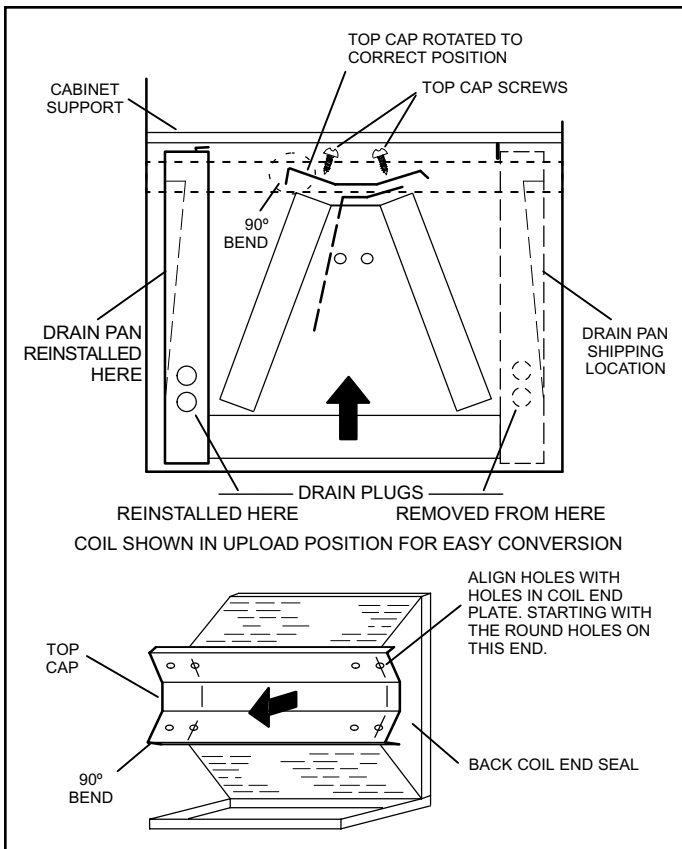

Figure 4. Field Modification for Left-Hand Discharge
7. Rotate top cap 180° front-to-back and align with unused screw holes. Holes must align with front and back coil end plates. The top cap has a 45° bend on one side and a 90° bend on the other. The 90° bend must be on the same side as the horizontal drain pan as illustrated in Figure 4.